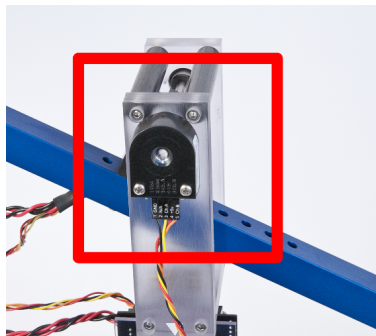

Figure 3.4: 3 DOF Helicopter encoder connection.
- Connect the four color encoder cable from the pedestal circuit board to the elevation encoder on the 3 DOF Helicopter body. Make sure that the ground pin on the encoder matches the ground terminal of the connector as shown in Figure 3.4.